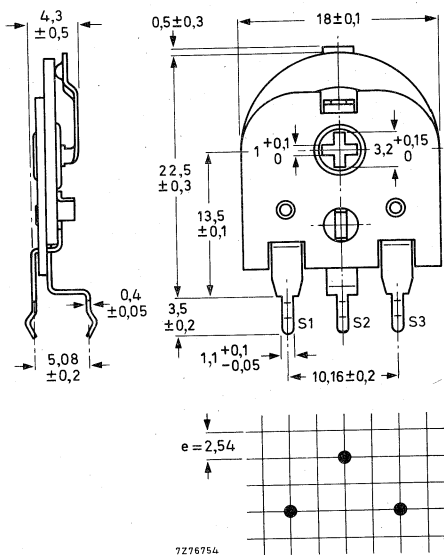

Fig.4 Potentiometer 2322 411 073..
- Potentiometers 2322 411 .73..** provided with pins, for vertical mounting on printed-wiring boards (Fig.4).